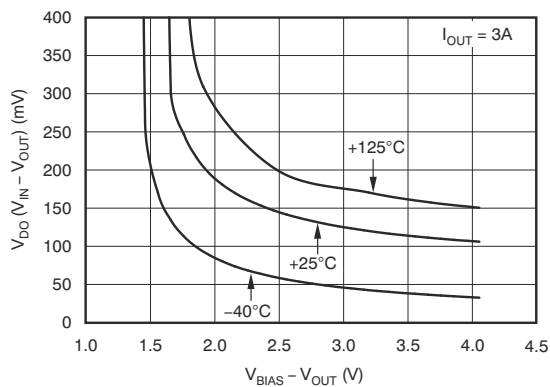

图 5-11. V_{IN} Dropout Voltage vs V_{IN} Dropout Voltage vs I_{OUT} and Temperature (T_J)
- (1) Adjustable devices tested at 0.8 V; resistor tolerance is not taken into account.
- (2) Dropout is defined as the voltage from V_{IN} to V_{OUT} when V_{OUT} is 3% below nominal.
- (3) 3.25 V is a test condition of this device and can be adjusted by referring to Figure 5-11.